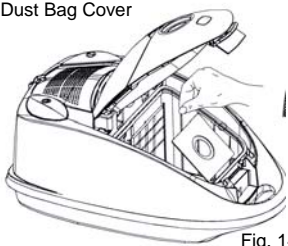

Fig. 14
2. Depress the dust bag cover release button and remove the dust bag. (Fig. 14)
3. Remove the HEPA dust bag from the holding slot, do not let dust fall out of HEPA dust bag. (Fig. 14)